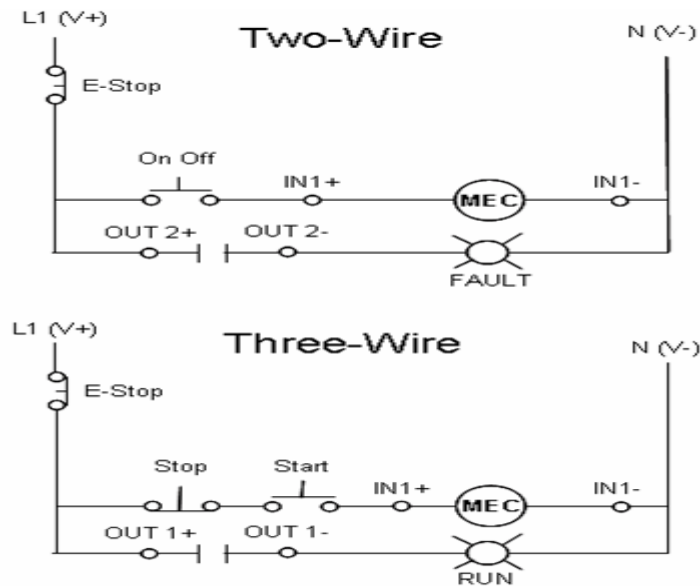

Figure 9 - I/O Wiring
- Make I/O wiring connections as indicated in the typical connection diagrams shown in Figure 9.